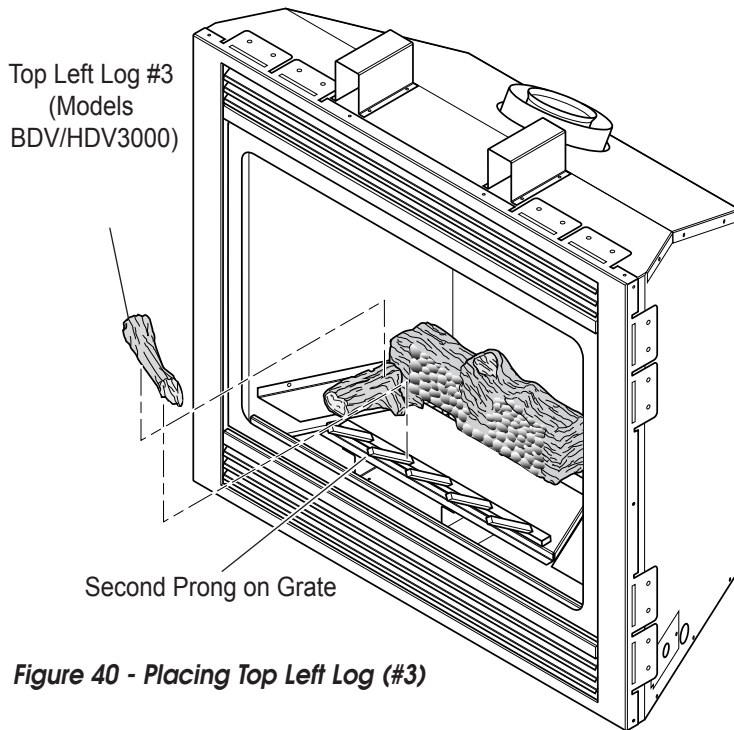

Figure 40 - Placing Top Left Log (#3)
3. For models BDV/HDV3000 Place top left log (#3) on bottom left log and second prong of grate. *See Figure 40.*